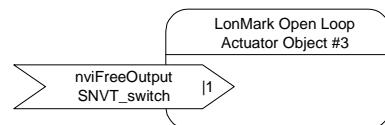

Fig. 8. Open Loop Actuator Object
- deux open loop actuator objects (#3) (see Fig. 8)